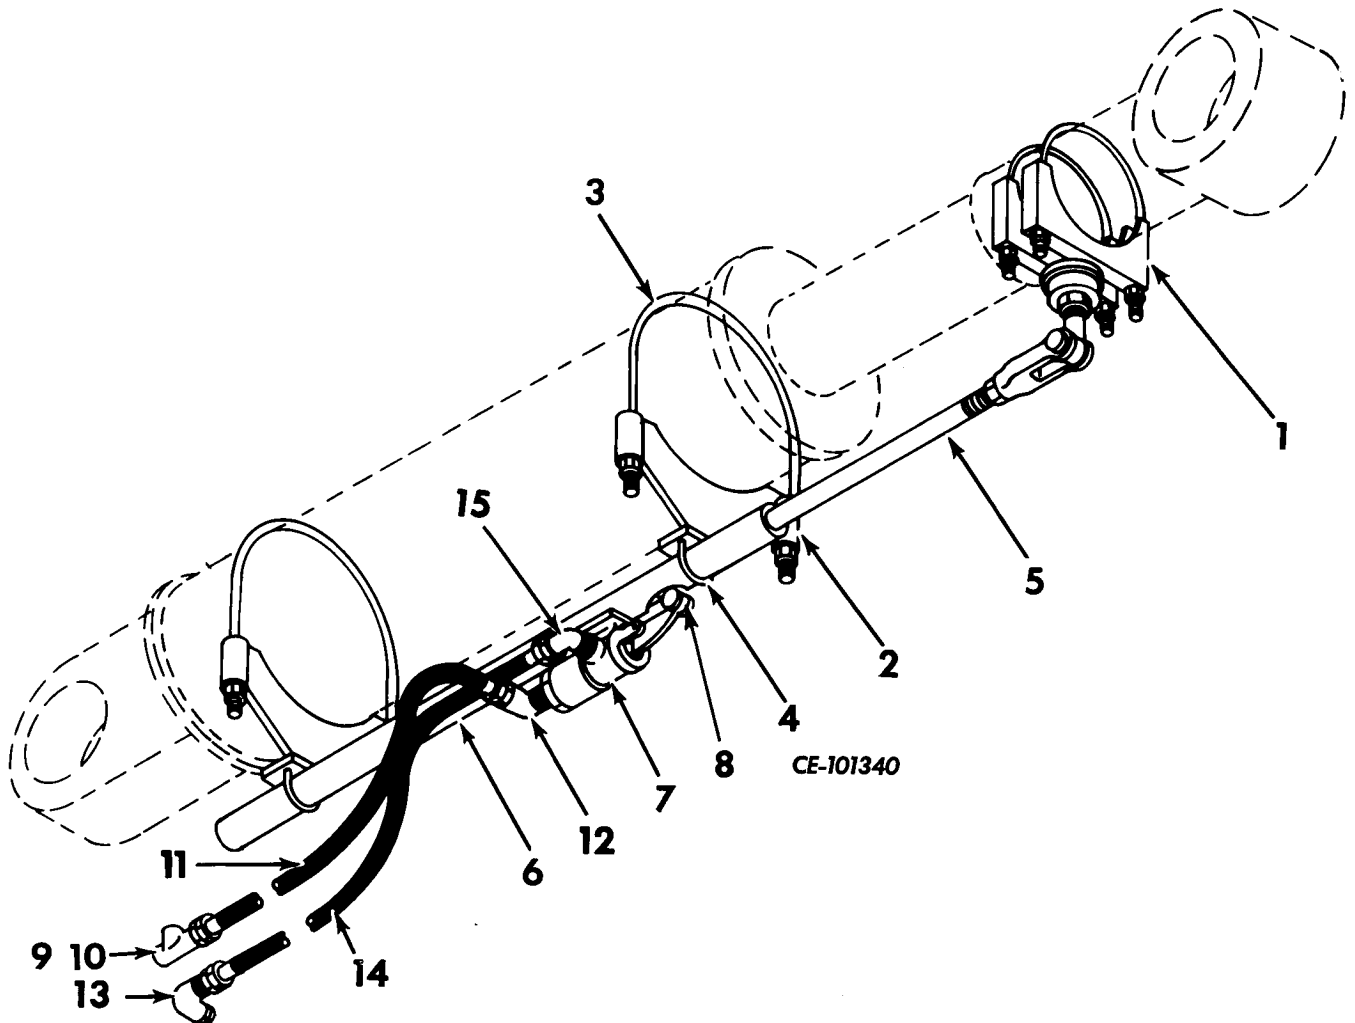

Figure 2-9a Bucket leveler
The automatic bucket positioner (Figure 2-9a) is factory pre-set to keep the bucket in a horizontal or "digging" attitude, with the cutting edge of the bucket parallel to the ground.
This is accomplished as follows: (refer to Figure 2-9a). When the cylinder piston moves, it also causes the activating rod (5) to move with in its tube. The rod (5) movement causes the actuating arm (8) of the control valve (7) to operate the valve when the actuating arm contacts the shoulder of the rod. Air pressure is then applied to the control valve spool, which forces the spool from its detented position into the "hold" position.